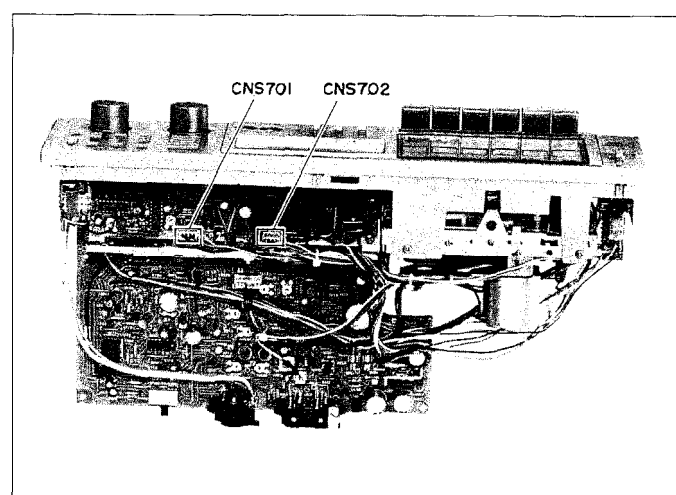

Figure 5-4
1. Disconnect the two (2) sockets (CNS701 and CNS702) from the microcomputer block. (Refer to Figure 5-4.)